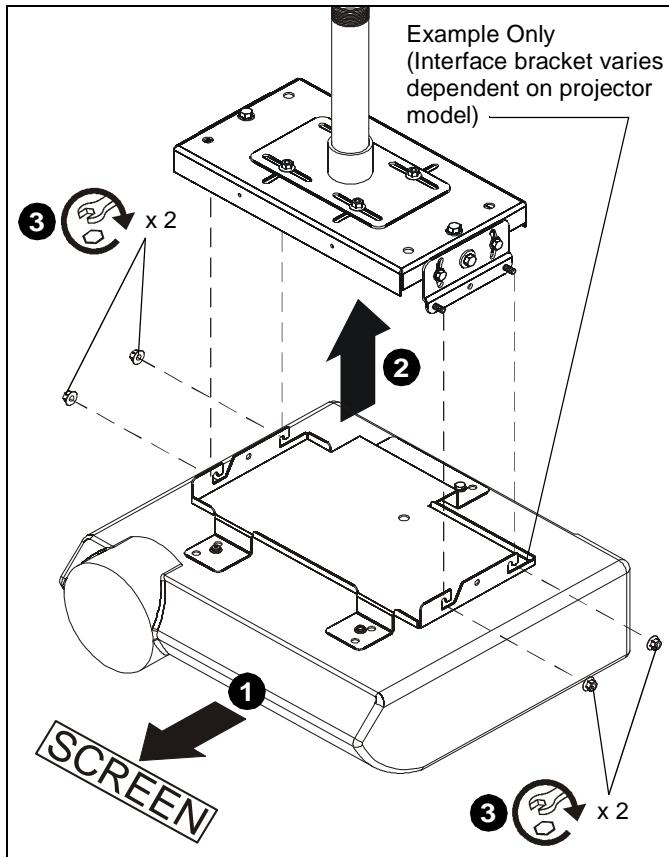

Figure 3
- Orient projector with attached interface bracket so that it is square to the screen. (See Figure 3)
- Lift the projector and install it to the four studs extending from the VCM housing. (See Figure 3)
- Tighten the four 5/16" flange nuts. (See Figure 3)